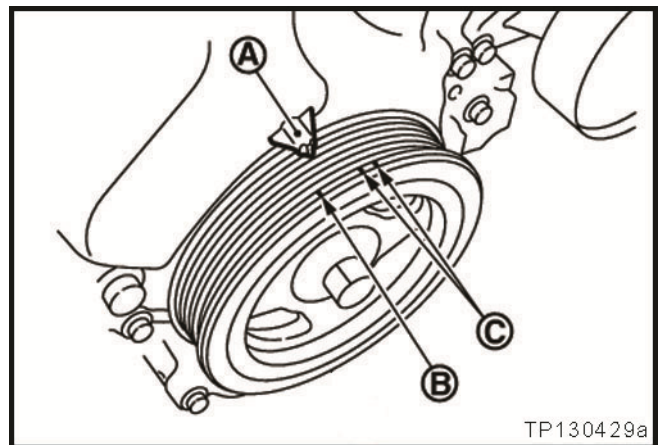

Figure 4
- a. Rotate the crankshaft to line up marks A and B shown in Figure 4.